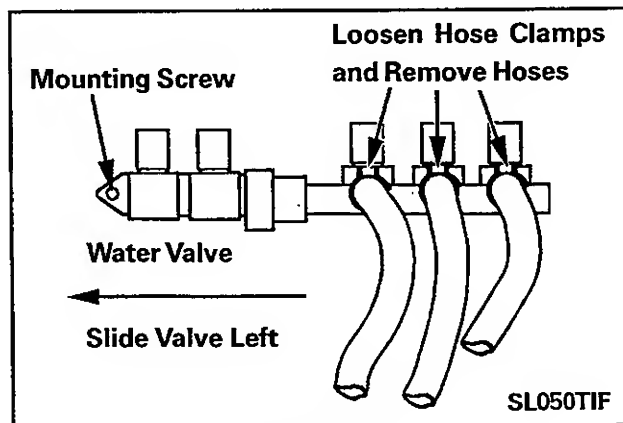

Figure 6-3
7. Locate and loosen the valve mounting screw by turning the screw at least three full turns. Note, the mounting screw serves as a locating pin to hold the valve in position on the mounting bracket. By partially removing the screw, the water valve can now be slid to the left and removed from the bracket (*Figure 6-3*).